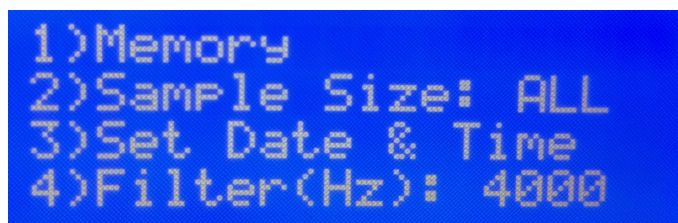

Figure 14. Utilities Menu 1-4
There are several utilities that are available in the Utilities Menu, including clearing data, setting the sample size, setting the filter, etc. Press the UTILS key when the Main Screen is displayed to access the Utilities Menu, as shown in Figure 14 below. Note that it may be necessary to use the Down Arrow key to display menu items 5-8.